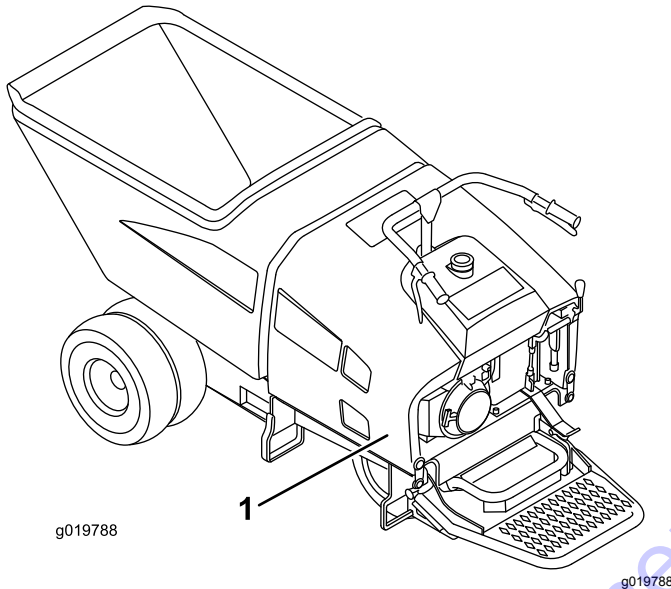

Figure 14
1. Before removing the cowl (Figure 14), shut off the engine and allow the engine to cool.